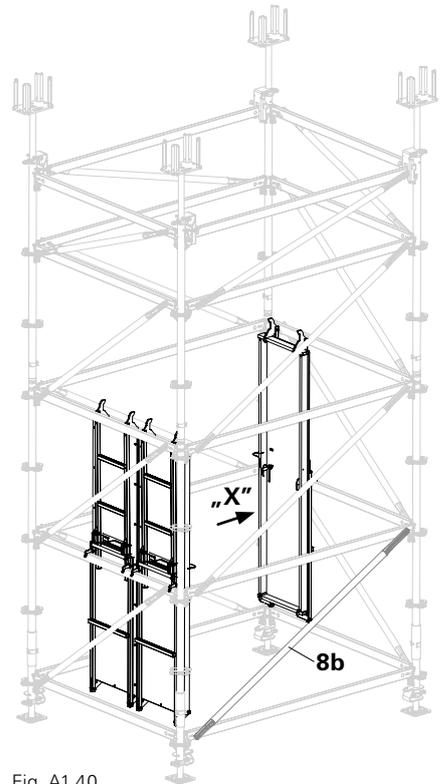

Fig. A1.40
- Decking is only allowed to hang for a short time in the open position before it is removed. (Fig. A1.40)